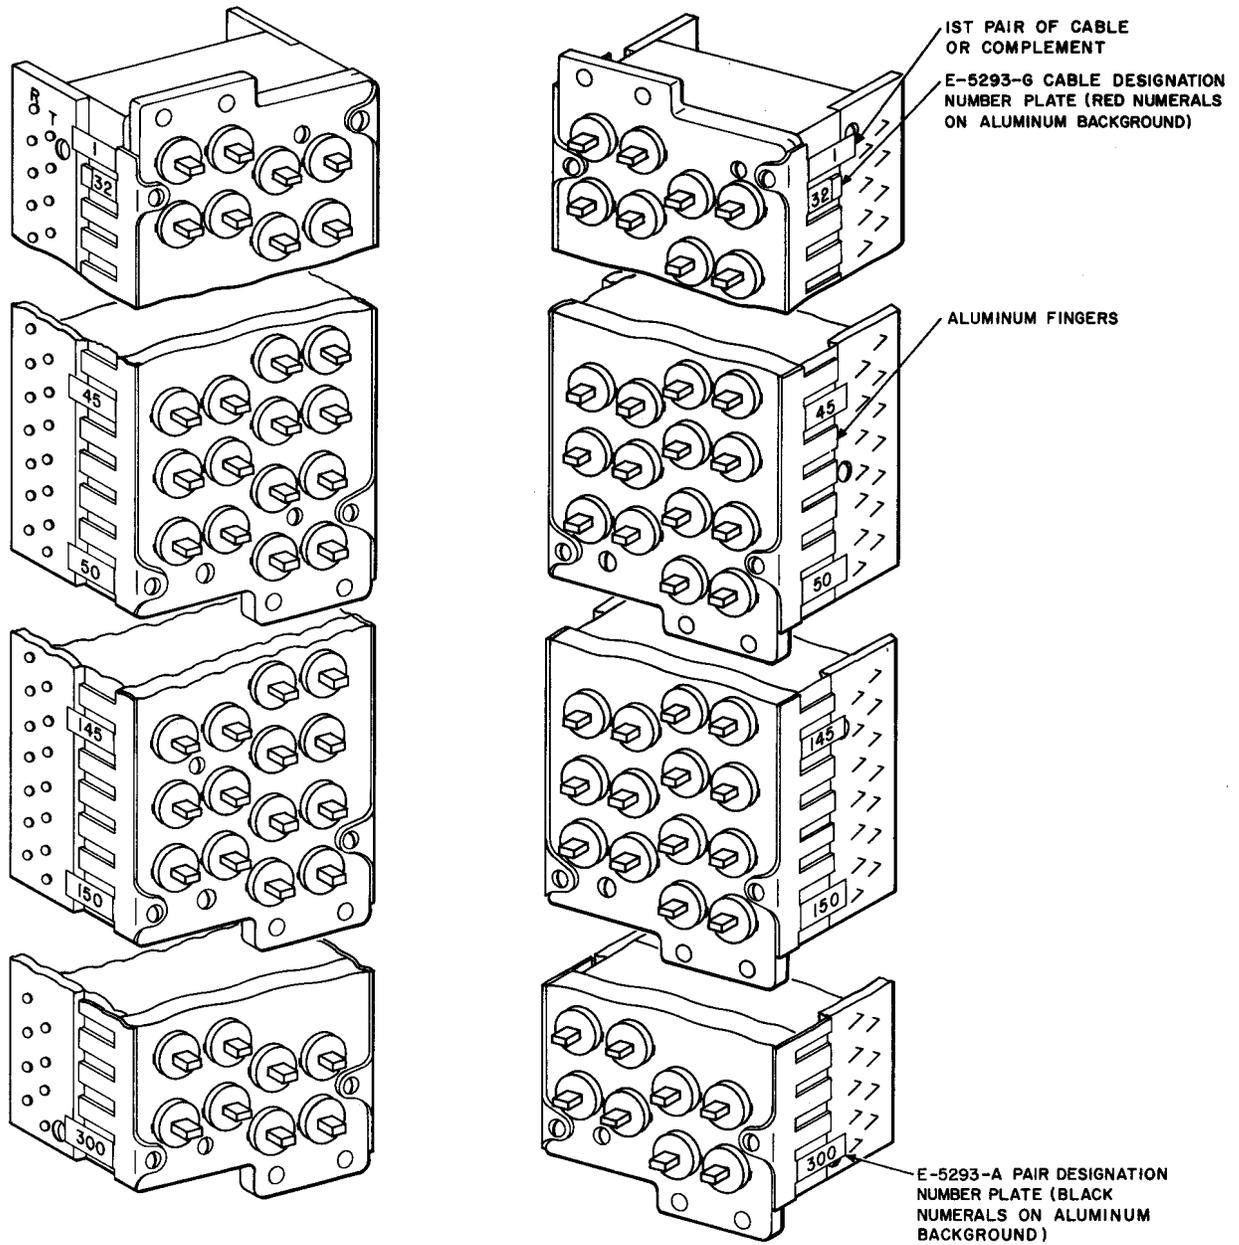

Fig. 4—Number Plates on Aluminum Fingers of Superseded 300-Type Connector
- 2.10** The superseded 300-type connector with aluminum fingers requires the use of pair designation number plates for marking the first and last pair and all intermediate pairs ending in 0 or 5 (see Fig. 4).